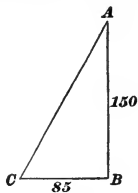

FIG. 29.
**SOLUTION.**—In Fig. 29,  $AB$  represents the steeple, 150 feet high;  $C$  a stake 85 feet from the foot of the steeple, and  $AC$  the rope. Here we have a right triangle right-angled at  $B$ , and  $AC$  is the hypotenuse. The square of  $AB = 150^2 = 22,500$ ; of  $CB, 85^2 = 7,225$ .  $22,500 + 7,225 = 29,725$ ;  $\sqrt{29,725} = 172.4$  ft., nearly. Ans.